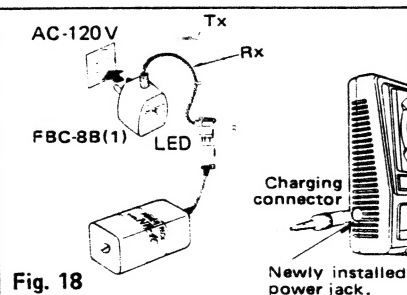

Fig. 18
- (4) Connect the 3PC red male connector soldered to the power switch to the 3PC red female connector of the NT-8J, check the positions of the left and right sticks, level meter, power switch, PC wiring board, and the power jack just installed, then install the transmitter case with the screws.
- (5) Charging and use
- (a) Connect the power plug of the FBC-8B (1) battery charger to the transmitter charging connector. Connect the 3PC red male connector to the receiver and servo NR-4C nicad battery. Plug the battery charger into a 120 VAC outlet as shown in Fig. 18.